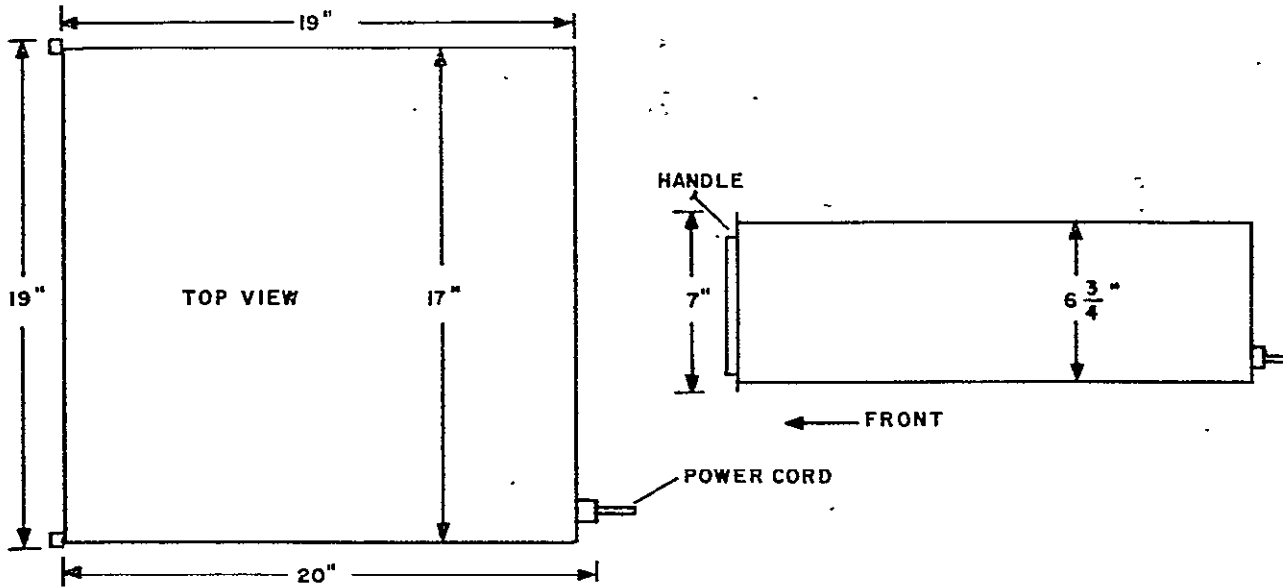
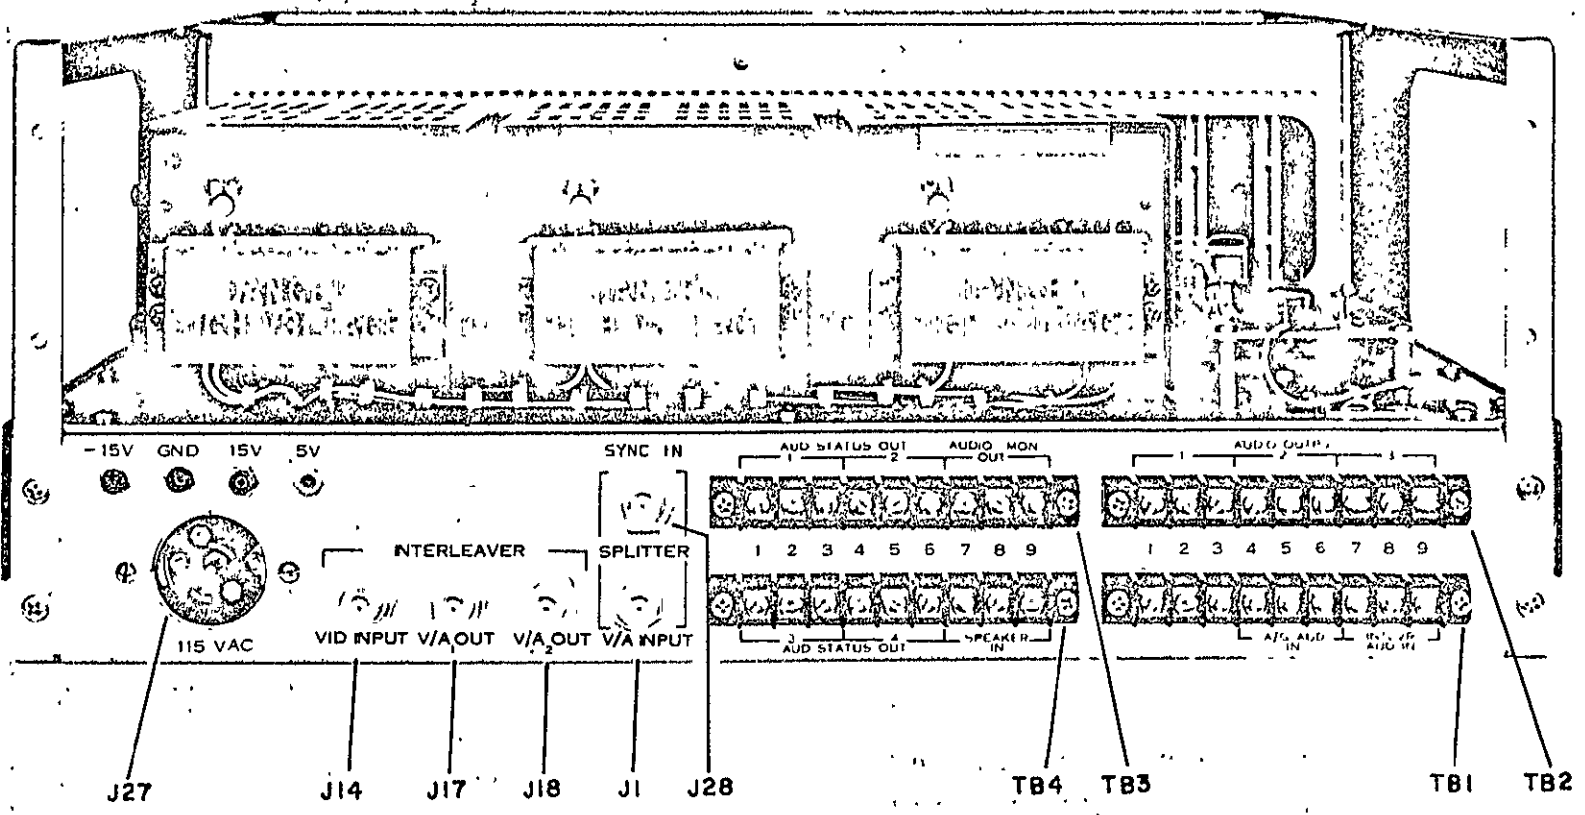
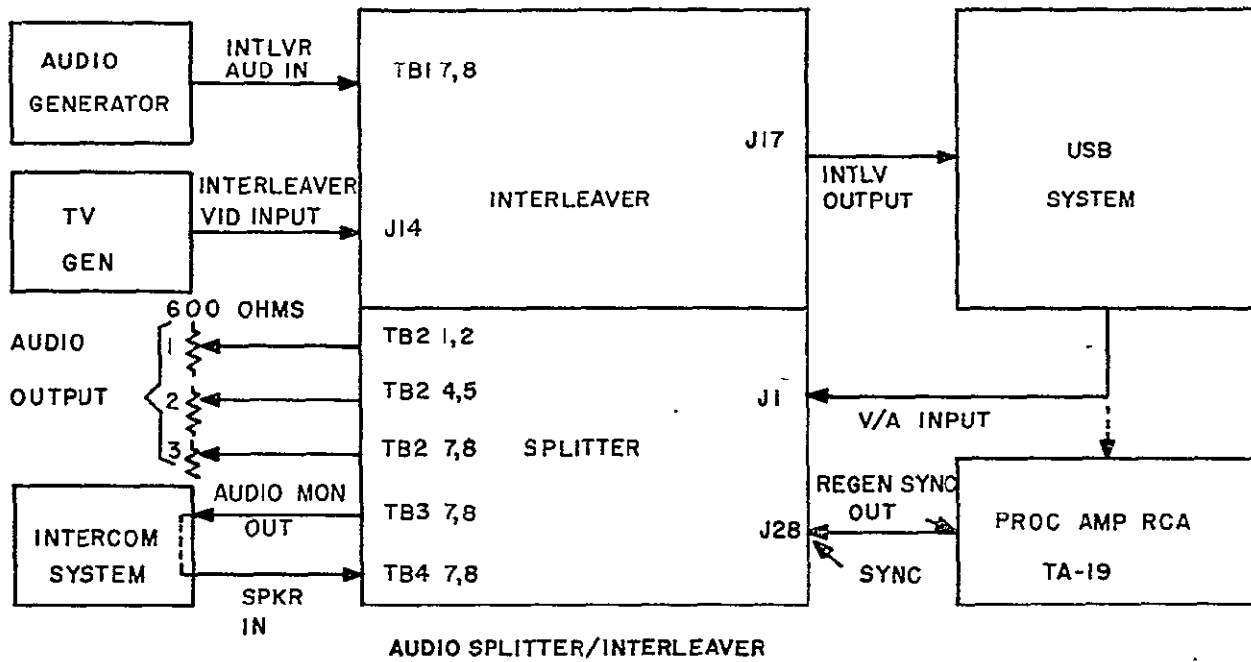

Figure 2-1. Installation Clearance
Figure 2-3. Audio/CTE Splitter/Interleaver, Rear Panel, Interface Connections
Figure 3-11. Audio/CTE Splitter/Interleaver USB System Connections (setup)
The Audio/CTE Splitter/Interleaver should be installed in a clean, dust-free area. An air-conditioned area with low humidity and moderate temperature is preferred. Refer to Figure 2-1 (Installation Clearance) for diagram.
##### 2.1.2 Installation in Rack (Refer to Figures 2-1, 2-2)
Signal inputs and outputs are made through connectors located on the rear panel of the unit (refer to Figure 2-3). Sufficient room should be allowed for external connections (refer to Figure 2-1 for installation clearances). Refer to Table 2-1 for cabling information.
2. Figure 2-3. Rear Panel.
1. Connect TV signal generator to INTERLEAVER VID IN connector (J14), located on the rear panel (refer to Figure 2-3).
2. Connect audio signal generator to INTLVR AUD IN terminals (TB1-7,8) on the rear panel (refer to Figure 2-3).
1. Connect the INTERLEAVER V/A OUT 1 (J14) signal to the SPLITTER V/A INPUT Connector (J1), located on the rear panel (refer to Figure 3-11 for connections and Figure 2-3 for location of connectors).